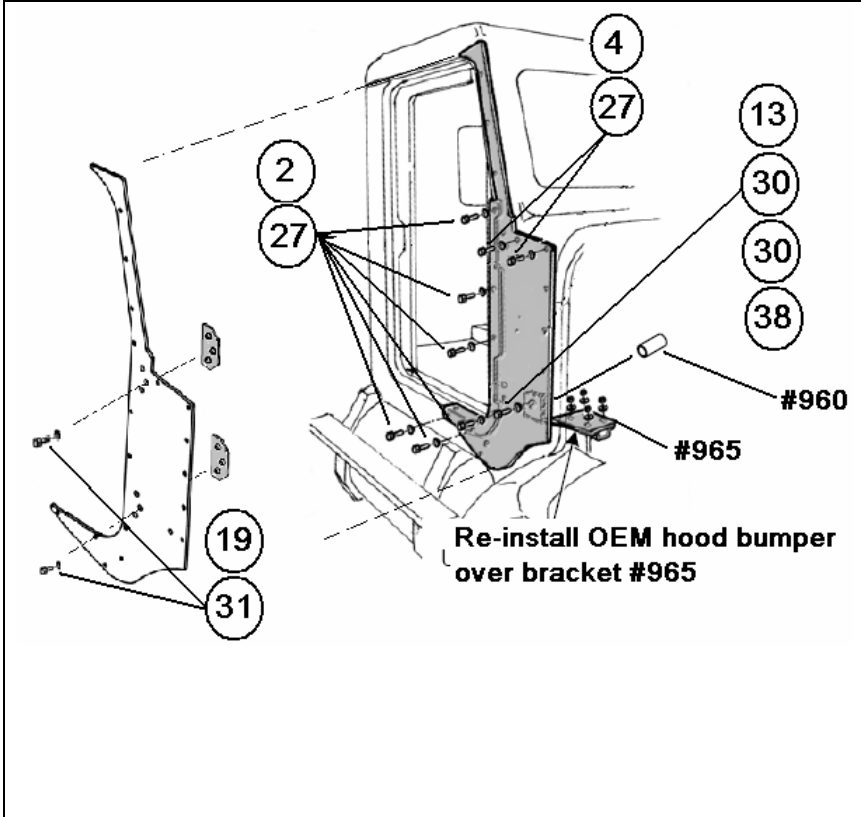
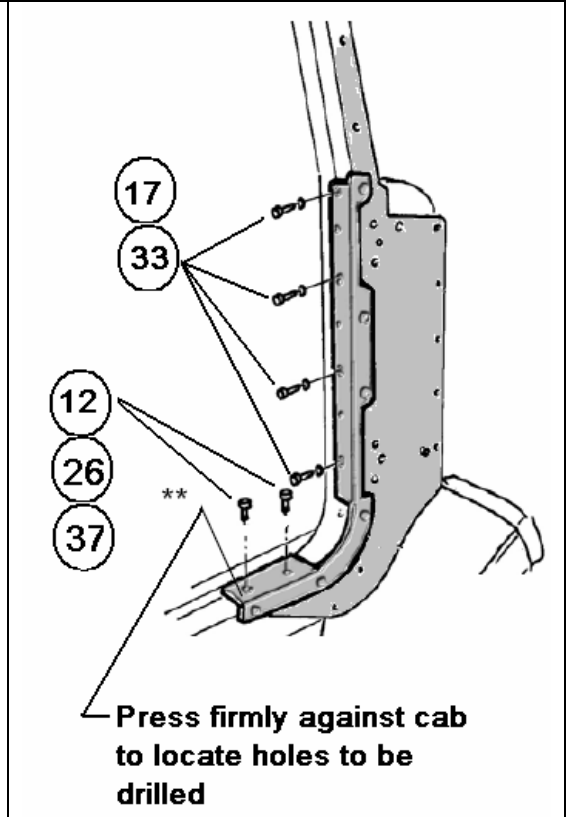

Figure 5-65b. RH Cowl Kit Installation
Figure 5-66. RH Cowl Kit Installation
2. Place brackets #995 on the back face of the external A-pillar panel and retain with one bolt each as shown in Figure 5-65b. The brackets should be positioned with the protruding flanges into the A-pillar panel.
4. Install bracket #965 as indicated in Figure 5-65b. The bracket is mounted between the OEM bumper and the OEM bumper mount.
5. Place a bolt (13) with a washer (30) through the appropriate hole in the external A-pillar panel #256. Place the spacer #960 on the bolt against the back side of panel #255. Set the A-pillar panel in position against the side of the vehicle cab. The bushing #960 should pass through the 30-mm hole drilled in the side of the cab (reference Section 2). The bolt should pass through the corresponding hole in bracket #965. Secure the bolt with nut (38) and washer (30).
7. Install the bolts securing the overlap to the OEM hinge mount points on the A-pillar as shown in Figure 5-66.
8. All fasteners that have been installed to this point should still be loose to allow for positioning of the panel. Press the lower section of the A-pillar overlap firmly against the cab so that it is inboard and down it as far as possible against the lower edge of the door frame (reference Figure 5-66). Hold in this position and drill two 5/16-in. clearance holes through the lower door frame. Install bolts, washers (12, 33, 37), and tighten.